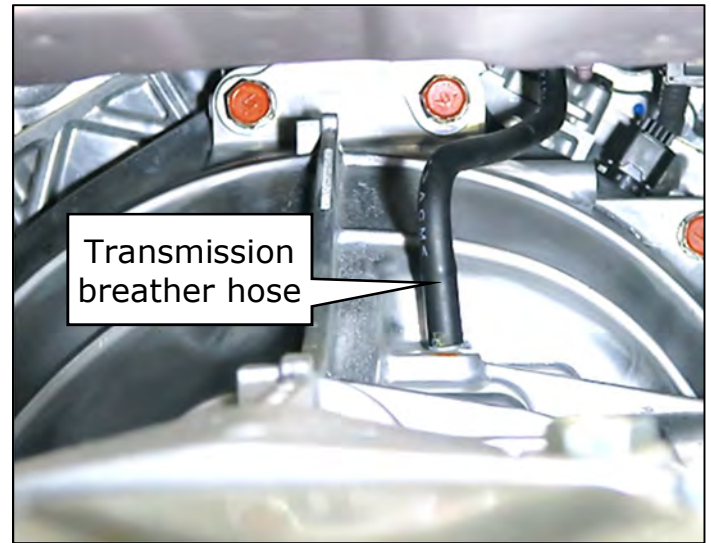

Figure 64
64. Disconnect the transmission breather hose. (Figure 64)